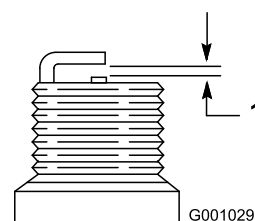

Figure 48
7. Set the gap between the electrodes on a new spark plug at 0.030 inch (0.76 mm) (Figure 48).